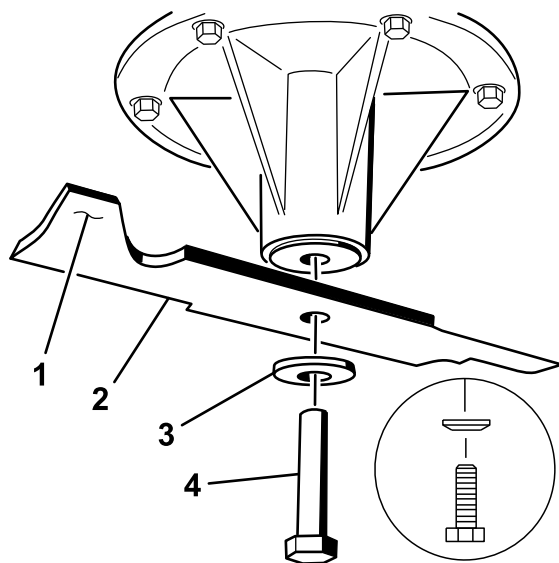

Figure 77
1. Install the blade onto the spindle shaft (Figure 77).
2. Install the spring disk and blade bolt (Figure 77).
Note: The spring-disk cone must be installed toward the bolt head (Figure 77).